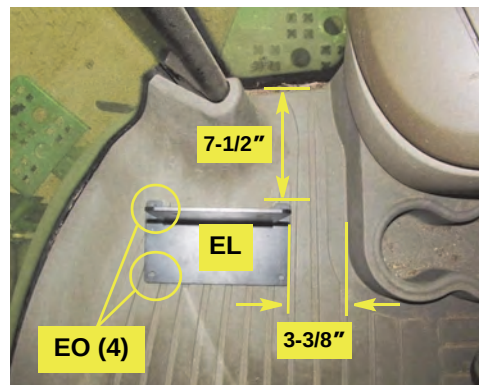

Figure 1b: Installing ECU mounting bracket - S-Series
- b. **S-Series:** Place bracket **EL** on the floor in the right front area of the cab with its one-inch tabs toward the right window. Set the bracket parallel to the machine's fore/aft centerline and with (Figure 1b):